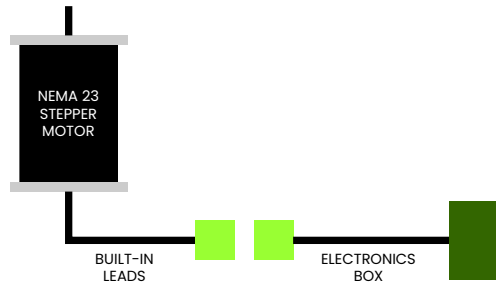

Figure 44: Cabling stages for the Y-Axis motors.
The cabling for the Y-Axis motors consists of providing them with power from the electronics board to the motor themselves. The cabling should be done in such a way that its parts are located in the different major components. Figure 44 presents the cabling stages for the Y-Axis motors. A total of two (2) 4-pin connectors and 1750 millimeters of 4-phases cable are needed in order to execute the Y-Axis motors cabling. Table 4 presents the procedure for cabling the Y-Axis motors.